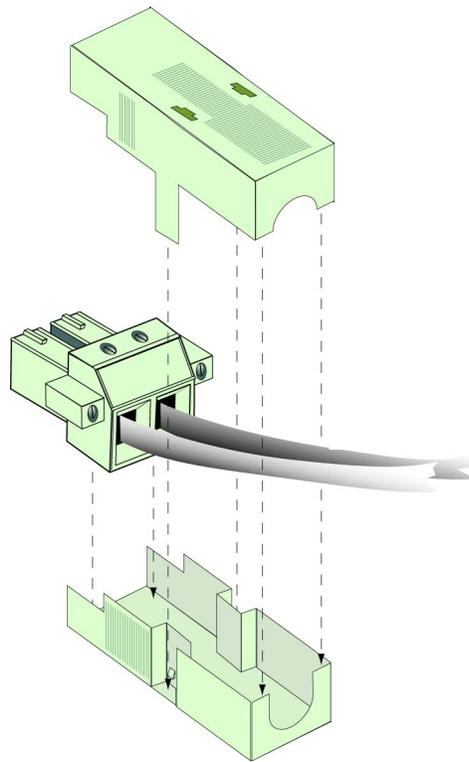

Figure 2-7. Top Section of Shell above Cabled DC Power Connector and Bottom Section
- b** With the plug seated into the bottom section, place the top section of the shell onto the bottom section. Do not yet snap them into place. (Figure 2-7 shows how the top and bottom sections fit together around the DC power plug.)